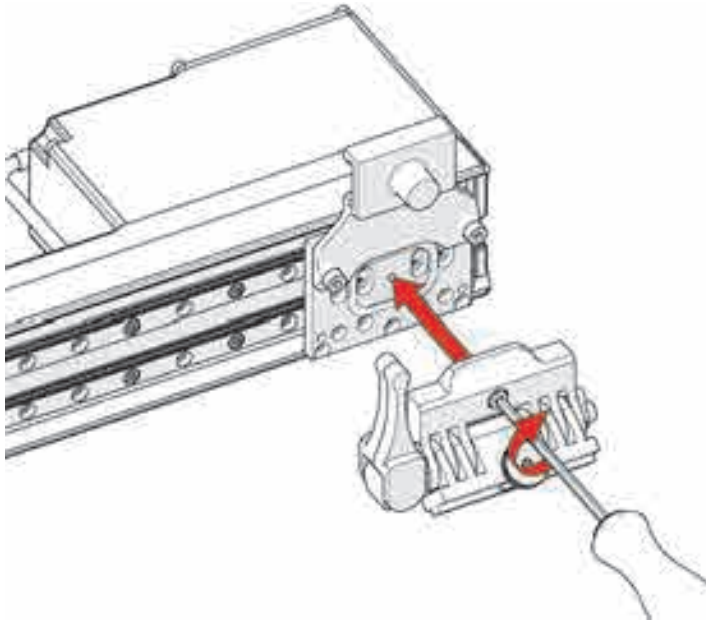

Figure 4-105 Install the male pivot nose
4. Mount the (male) pivot nose (sold separately) to the raster arm (see Figure 4-105 on page 169).